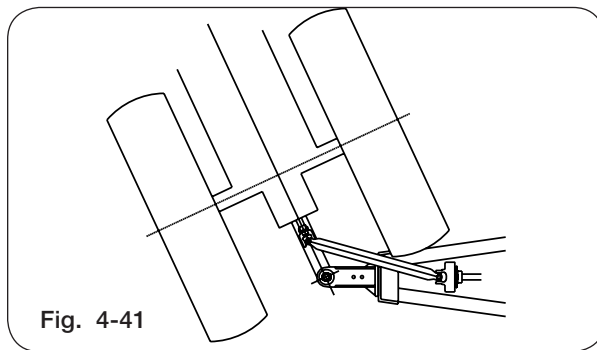

Fig. 4-41
6. Position the tractor to obtain the tightest turning angle, relative to the cart (Figure 4-41).